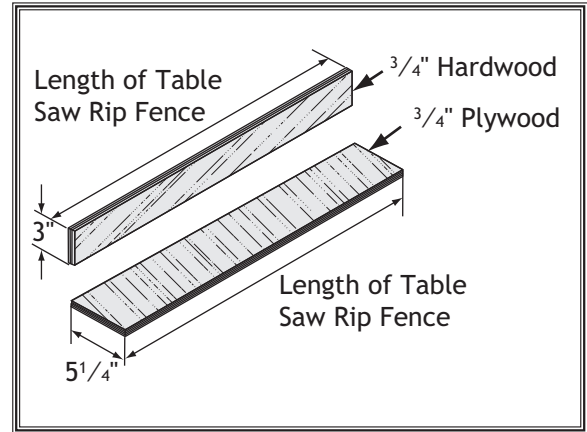

Figure 87. Auxiliary fence dimension.
1. Cut a piece of $\frac{3}{4}$ " thick plywood $5\frac{1}{4}$ " wide and as long as your table saw fence; cut a piece of $\frac{3}{4}$ " thick hardwood 3" wide and as long as your table saw fence, as shown in **Figure 87**.